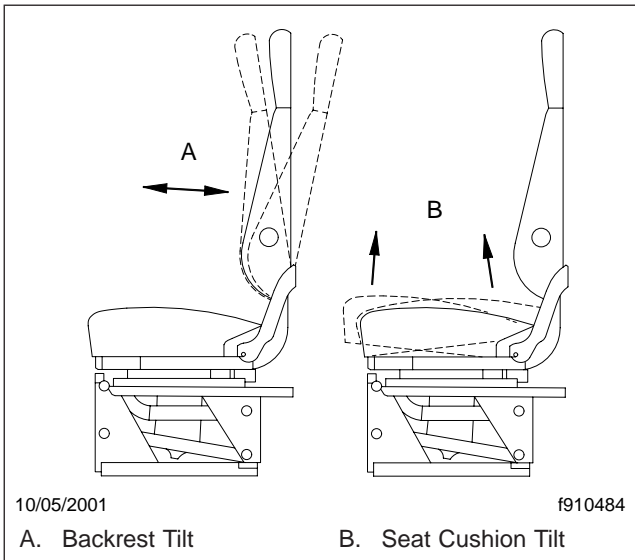

Fig. 3.6, Cushion Tilt Adjustments
5. **Backrest Tilt:** This adjustment pivots the backrest forward or backward. See Fig. 3.6.
6. **Seat Cushion Tilt:** This adjustment raises or lowers the front and/or back of the seat (bottom) cushion. This adjustment is easier to perform when all weight is removed from the seat. See Fig. 3.6.
7. **Seat Tilt:** When this adjustment is made, the seat assembly, both backrest and seat cushion, tilts forward or backward. See Fig. 3.6.